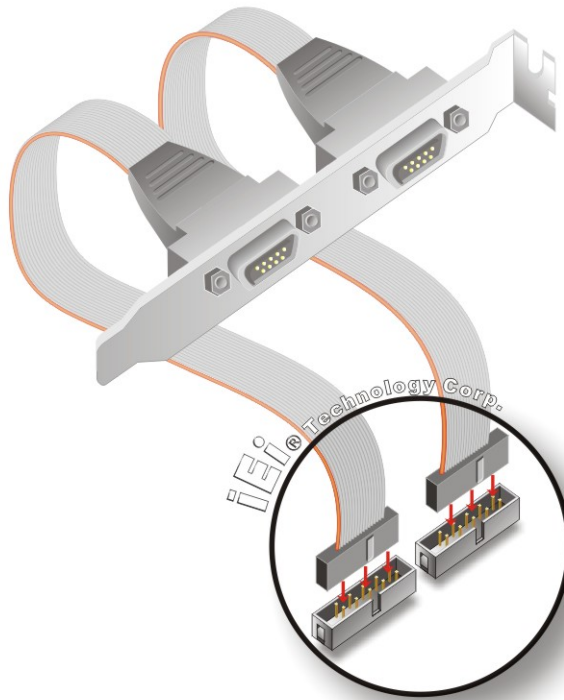

Figure 4-17: Dual RS-232 Cable Installation
Step 2: **Insert the cable connectors.** Insert one connector into each serial port box headers. See **Figure 4-17**. A key on the front of the cable connectors ensures the connector can only be installed in one direction.